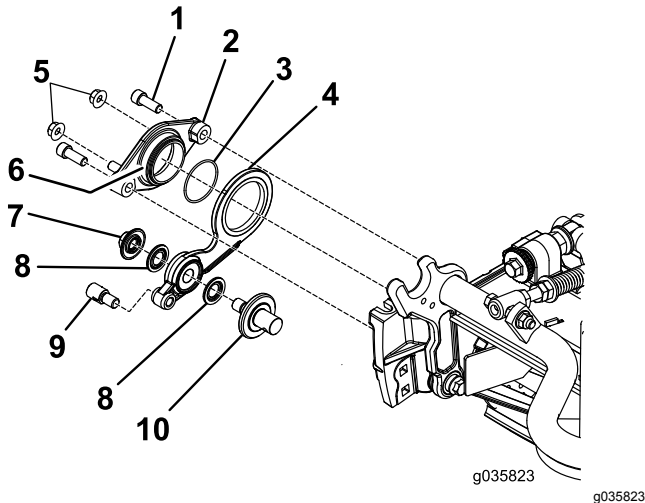

Figure 9
- Apply anti-seize compound on the outside diameter of the pivot-hub assembly (Figure 9).
- Secure the pivot hub over the idler assembly to the reel using 2 hex-socket bolts (Figure 9).
- Loosely install the 2 locknuts on the pivot hub (Figure 9).
- Assemble the parts that make up the idler assembly as shown in Figure 9. Torque the flange nut (3/4 inch) to 37 to 45 N·m (27 to 33 ft-lb); torque the adjuster collar to 33 to 41 N·m (24 to 30 ft-lb).